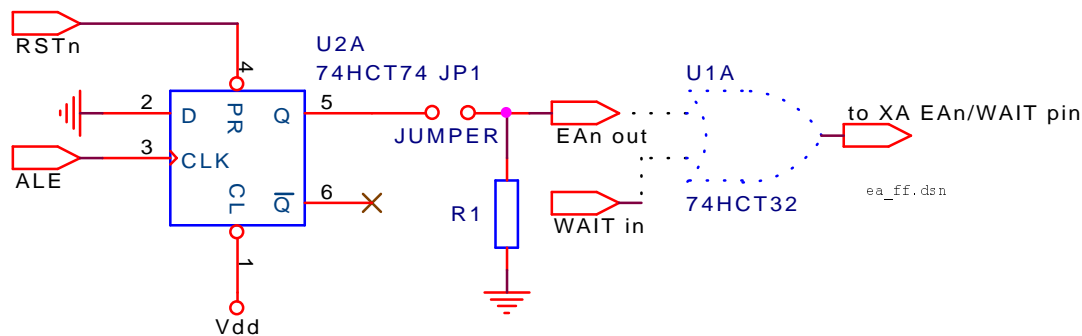

Figure 7, Generating EAn using D-flip-flop
Many designs use programmable logic to connect a microcontroller to peripherals and generate chip selects. The schematic shown in Figure 7 can also be implemented in a PLD. The following XPLA designer equations show it is very easy to implement the above described D flip-flop solution in a (C)PLD: